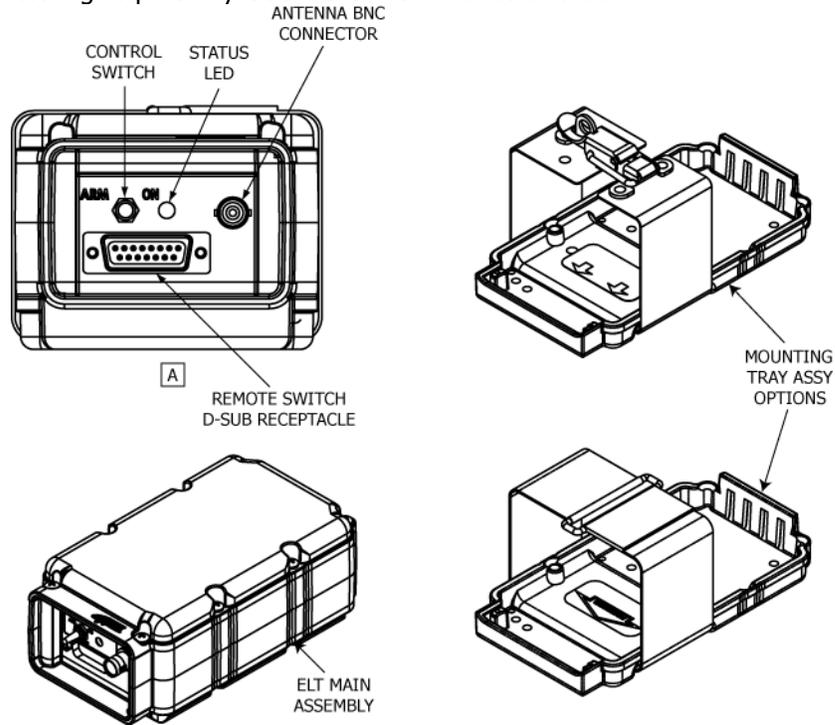

Figure 2 ME406 Series ELT and Mounting Tray Assembly
- 1) The ME406 Series ELT main assembly is housed in a high impact, fire resistant, polycarbonate plastic case and mounted in a tray made of similar material. See Figure 2 ME406 Series ELT and Mounting Tray Assembly.